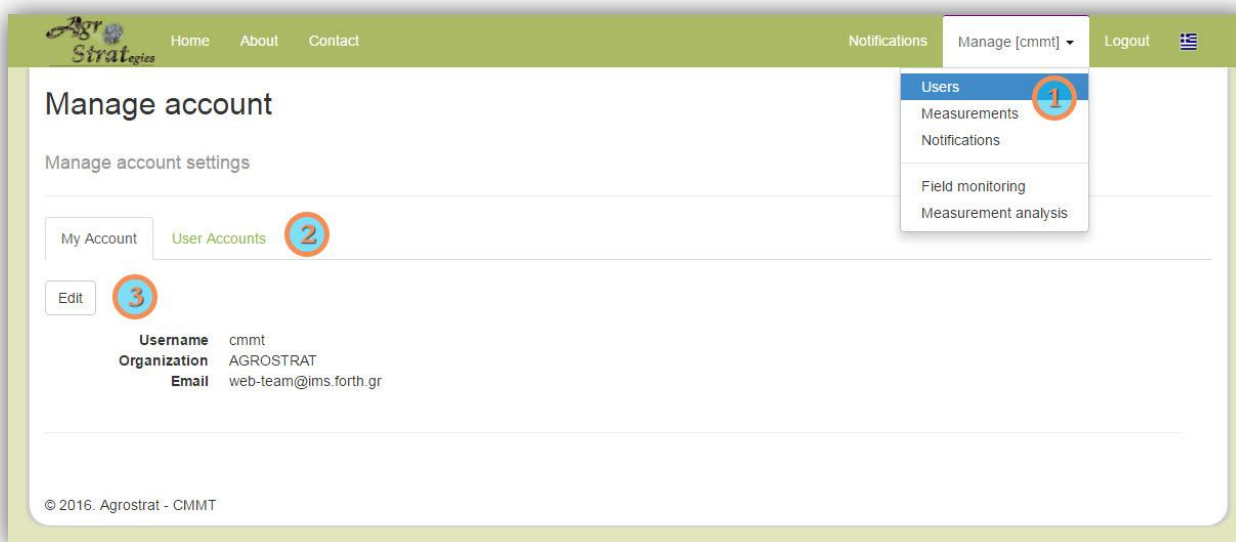

Figure 3. Users/Account management main screen
By selecting “Users” or “Account” from the “Manage” shortcut menu (1), the respective CMMT user is displayed with the account(s) management screen, as illustrated in Figure 3.
In the example of Figure 3, logged in user “cmmt” has an administrator role. Users are able to view “My account” tab (2), independently of role assigned. Users can modify/update their credentials (username, organization, email, and password) by clicking on the “Edit” button (3).
“User Accounts” tab is available for administrators only (2), Figure 3.